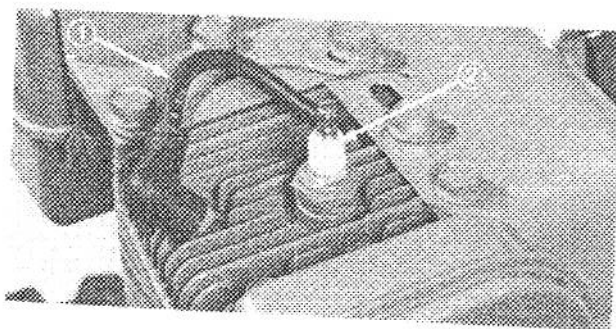

Figure 21
To prevent accidental starting of the engine while performing maintenance, rotate ignition key to off and remove it from the switch. Next, pull high tension wire off spark plug (Fig. 21) and make sure wire does not accidentally touch the plug.
1. Pull high tension wire (Fig. 21) off spark plug and make sure it does not contact the plug accidentally.
1. Pull high tension wire (Fig. 21) off spark plug and make sure it does not contact the plug accidentally. Drain gasoline from fuel tank.